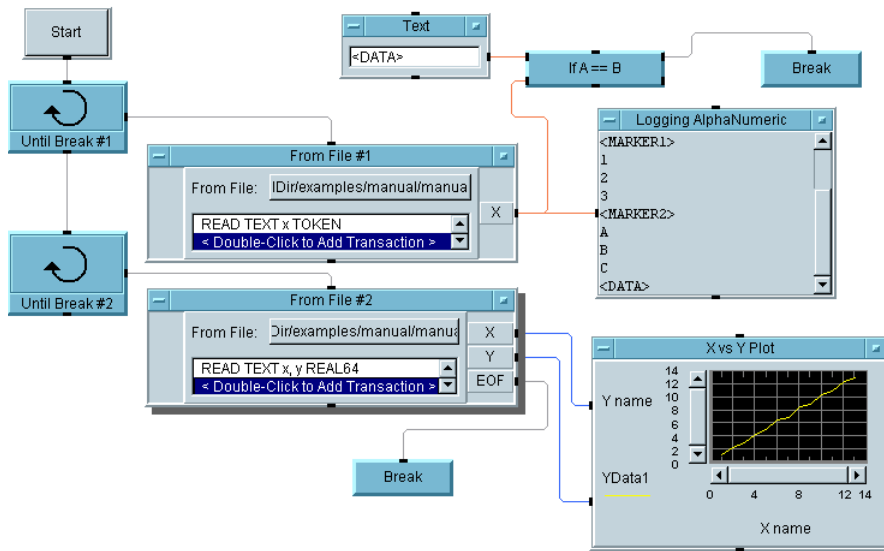

**Figure 4-17. Importing a Waveform File**
**Variable-Format Header.** Here is a portion of the data file read by the program in Figure 4-17:
To simplify this example, the program in Figure 4-17 finds only the data associated with `<DATA>`. In your own applications, you might need to search for several markers.
The program in Figure 4-17 is saved in the file `manual31.vee` in your `examples` directory.